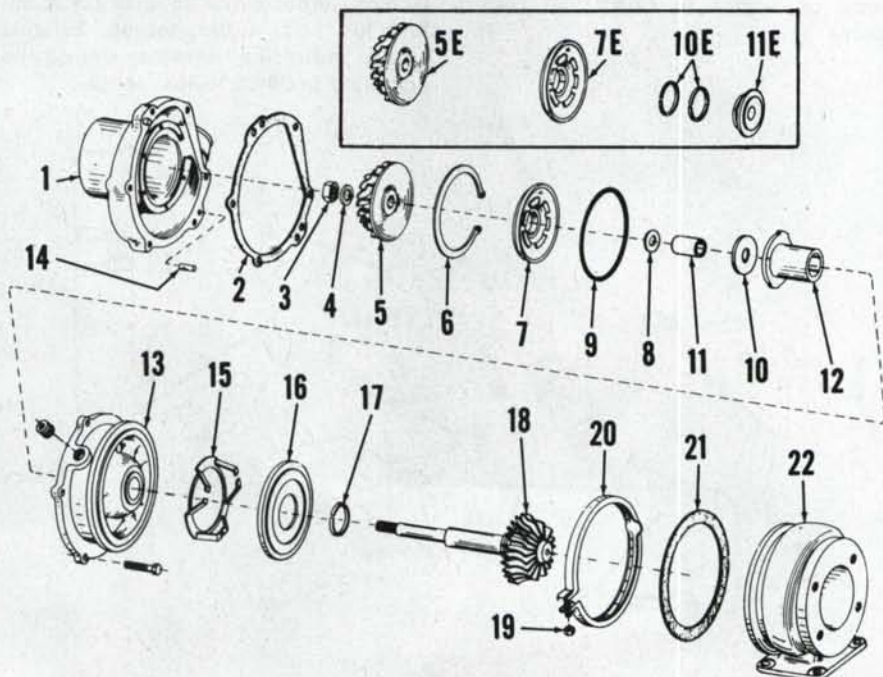
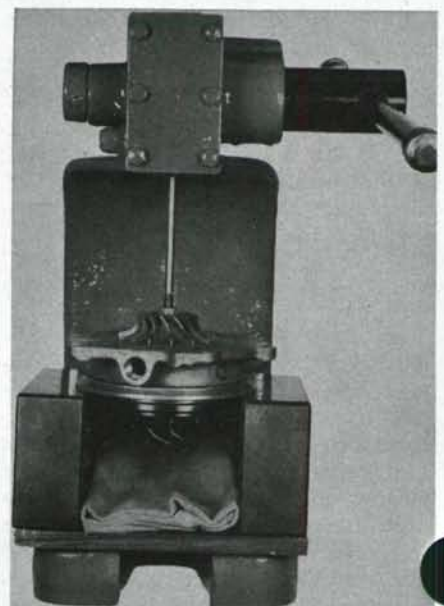

Fig. AC53—Exploded view of Thompson turbocharger unit used on diesel engines. Inset shows parts that are different on earlier unit.
Fig. AC54—View showing method of removing early type impeller using special Kent-Moore tool.
Remove turbocharger unit as outlined in paragraph 90. Scribe a mark across turbine housing (22—Fig. AC53), clamp (20), bearing housing (13) and compressor housing (1) to aid reassembly and proceed as follows: Remove nut (19) and clamp (20); then, remove turbine housing (22). Remove cap screws attaching bearing housing (13) to compressor housing (1) and remove compressor housing. Hold blades of turbine wheel (18) with shop towel; remove nut (3) and washer (4) from turbine shaft (L.H. threads). On early models, impeller (5E) is a tight fit on turbine shaft (18) and shaft must be pressed out of impeller as shown in Fig. AC54. On later models, impeller (5—Fig. AC53) will slide easily off shaft.
Remove snap ring (6), then remove oil retainer plate (7 or 7E). On early type, retainer plate (7E) must be pressed out of bore using the Kent-Moore special tool. On later type (7), a 3/4-inch driver can be used as shown in Fig. AC55 to remove seal and retainer plate (7—Fig. AC53), mating piece (10) and bearing (12).